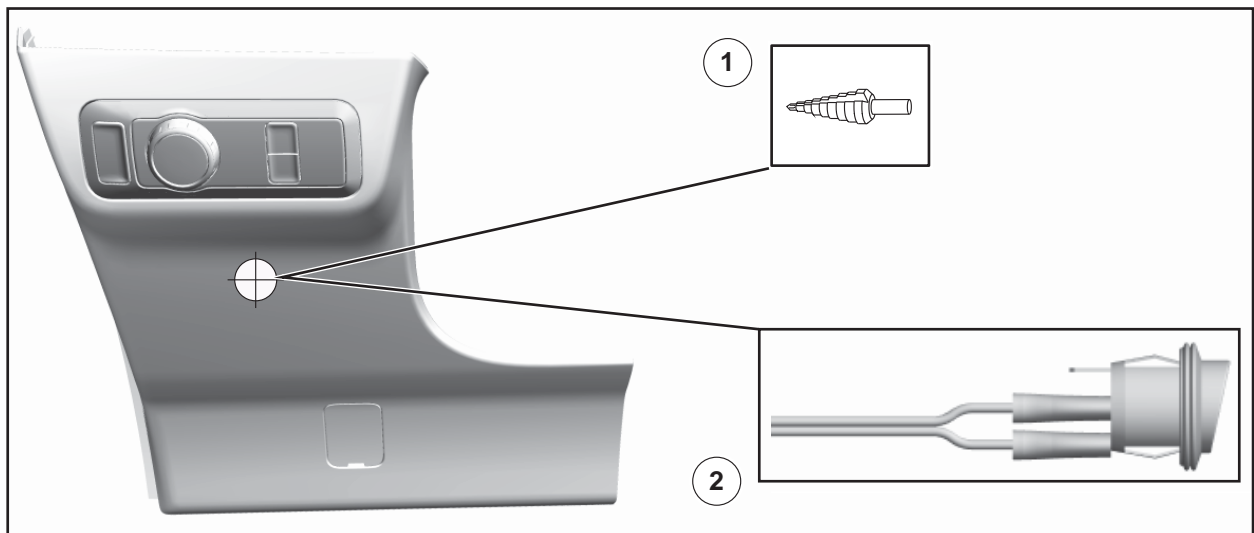

FIGURE 40
40. Install the lightbar switch. See Figure 40.